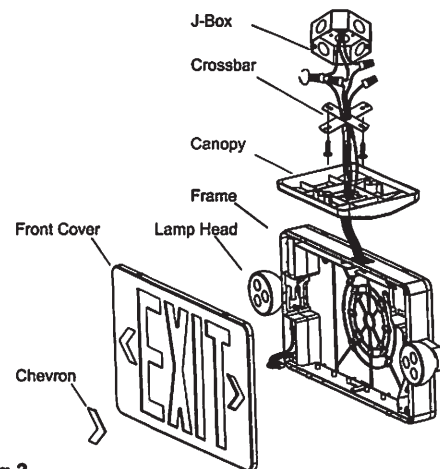

Fig 3
Ceiling Mounting (see Fig 3)
4. Remove out the mounting hole cover on the top and side of the unit, assemble the canopy the unit (see Fig 3).